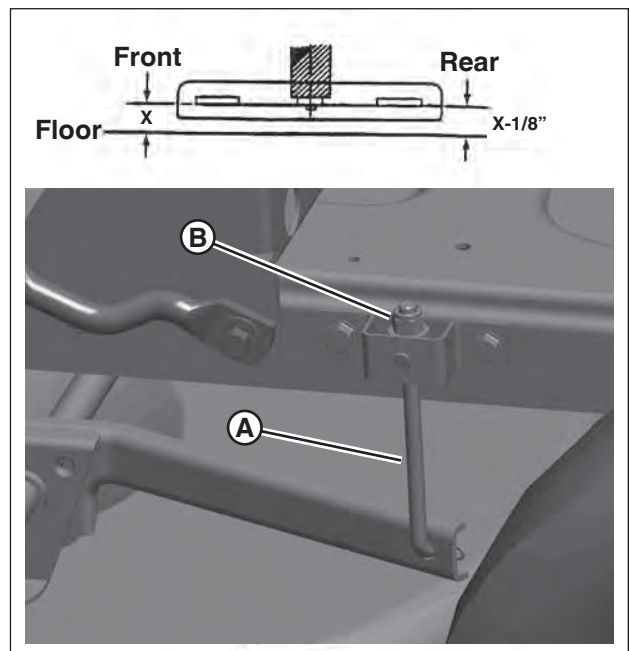

Figure 38: Mower deck leveling (front-to-rear)
5. Lower the mower deck until the rear of the deck is supported by the object placed under it in the previous step. (The rear hanger rods (A, Figure 38) should be loose.)
2. Measure the distance from the blade tips to the floor (Figure 38). The distance should be the same, or the rear 1/8" to 1/4" lower than the front. If the rear blade tip is higher than the front, or is more than 1/4" lower than the front, proceed with adjustment.
3. If adjustment is needed, turn the lock nut (B, Figure 38) on both left and right hanger rods (A) the same number of rotations to raise or lower the rear of the deck.